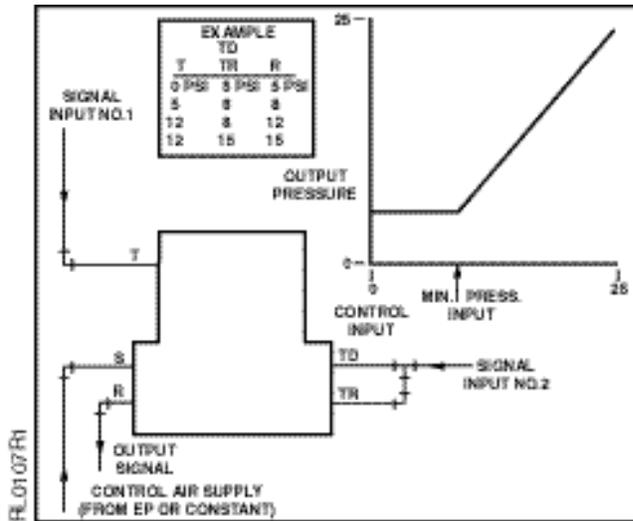

Figure 3.
- Higher pressure amplifying relay. Also minimum pressure relay with remote adjustment of minimum. See Figure 3.